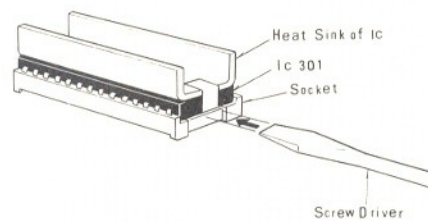

Fig. 9
2. Insert screw driver between IC301 and IC socket. (As shown fig. 9)